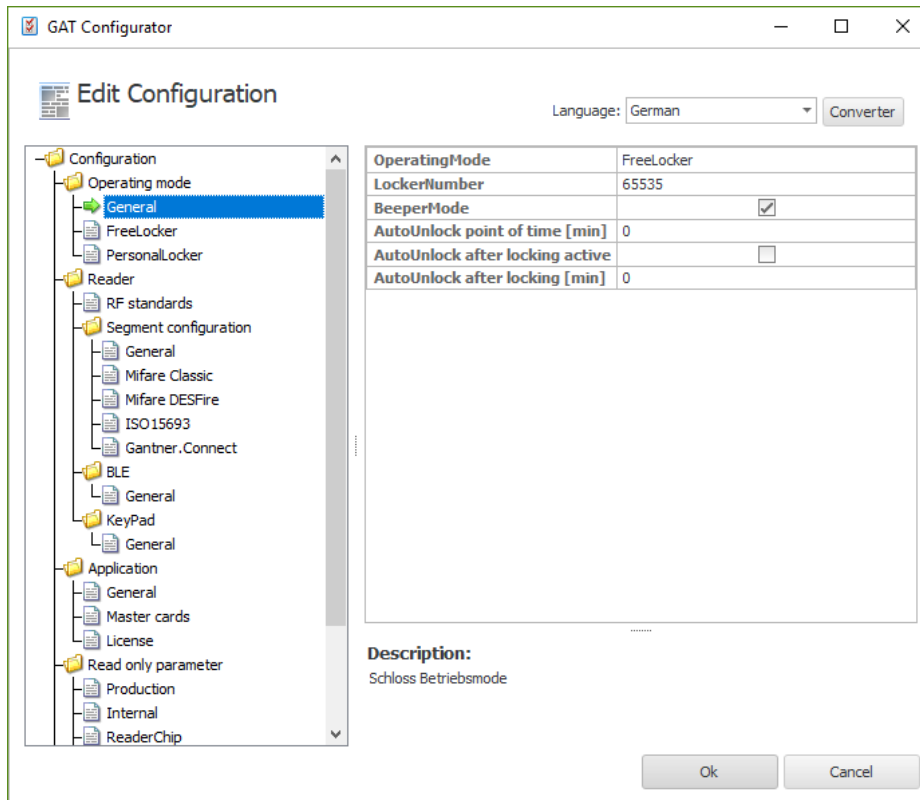

Figure 5.5 – “GAT Configurator” configuration window
- The “GAT Configurator” window opens (Figure 5.5).
- Click on "OK" in the GAT Configurator window (Figure 5.5).